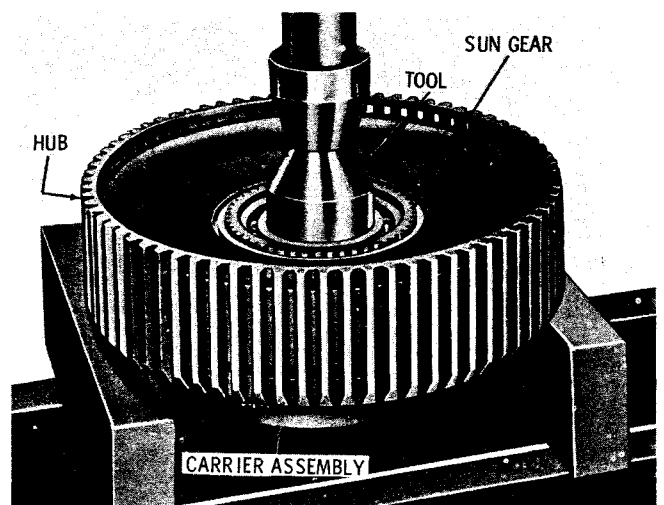

Fig. 5-44. Pressing splitter carrier assembly from splitter sun gear bearings
(5) Support the splitter planetary carrier assembly and the high-splitter clutch hub assembly under the clutch hub. Place the pressing tool against the hub of the carrier assembly. Press the carrier out of the splitter sun gear bearing (fig. 5-44). Refer to paragraph 6-19 for rebuild of the splitter clutch hub, and to paragraph 6-20 for rebuild of the splitter planetary carrier assembly.